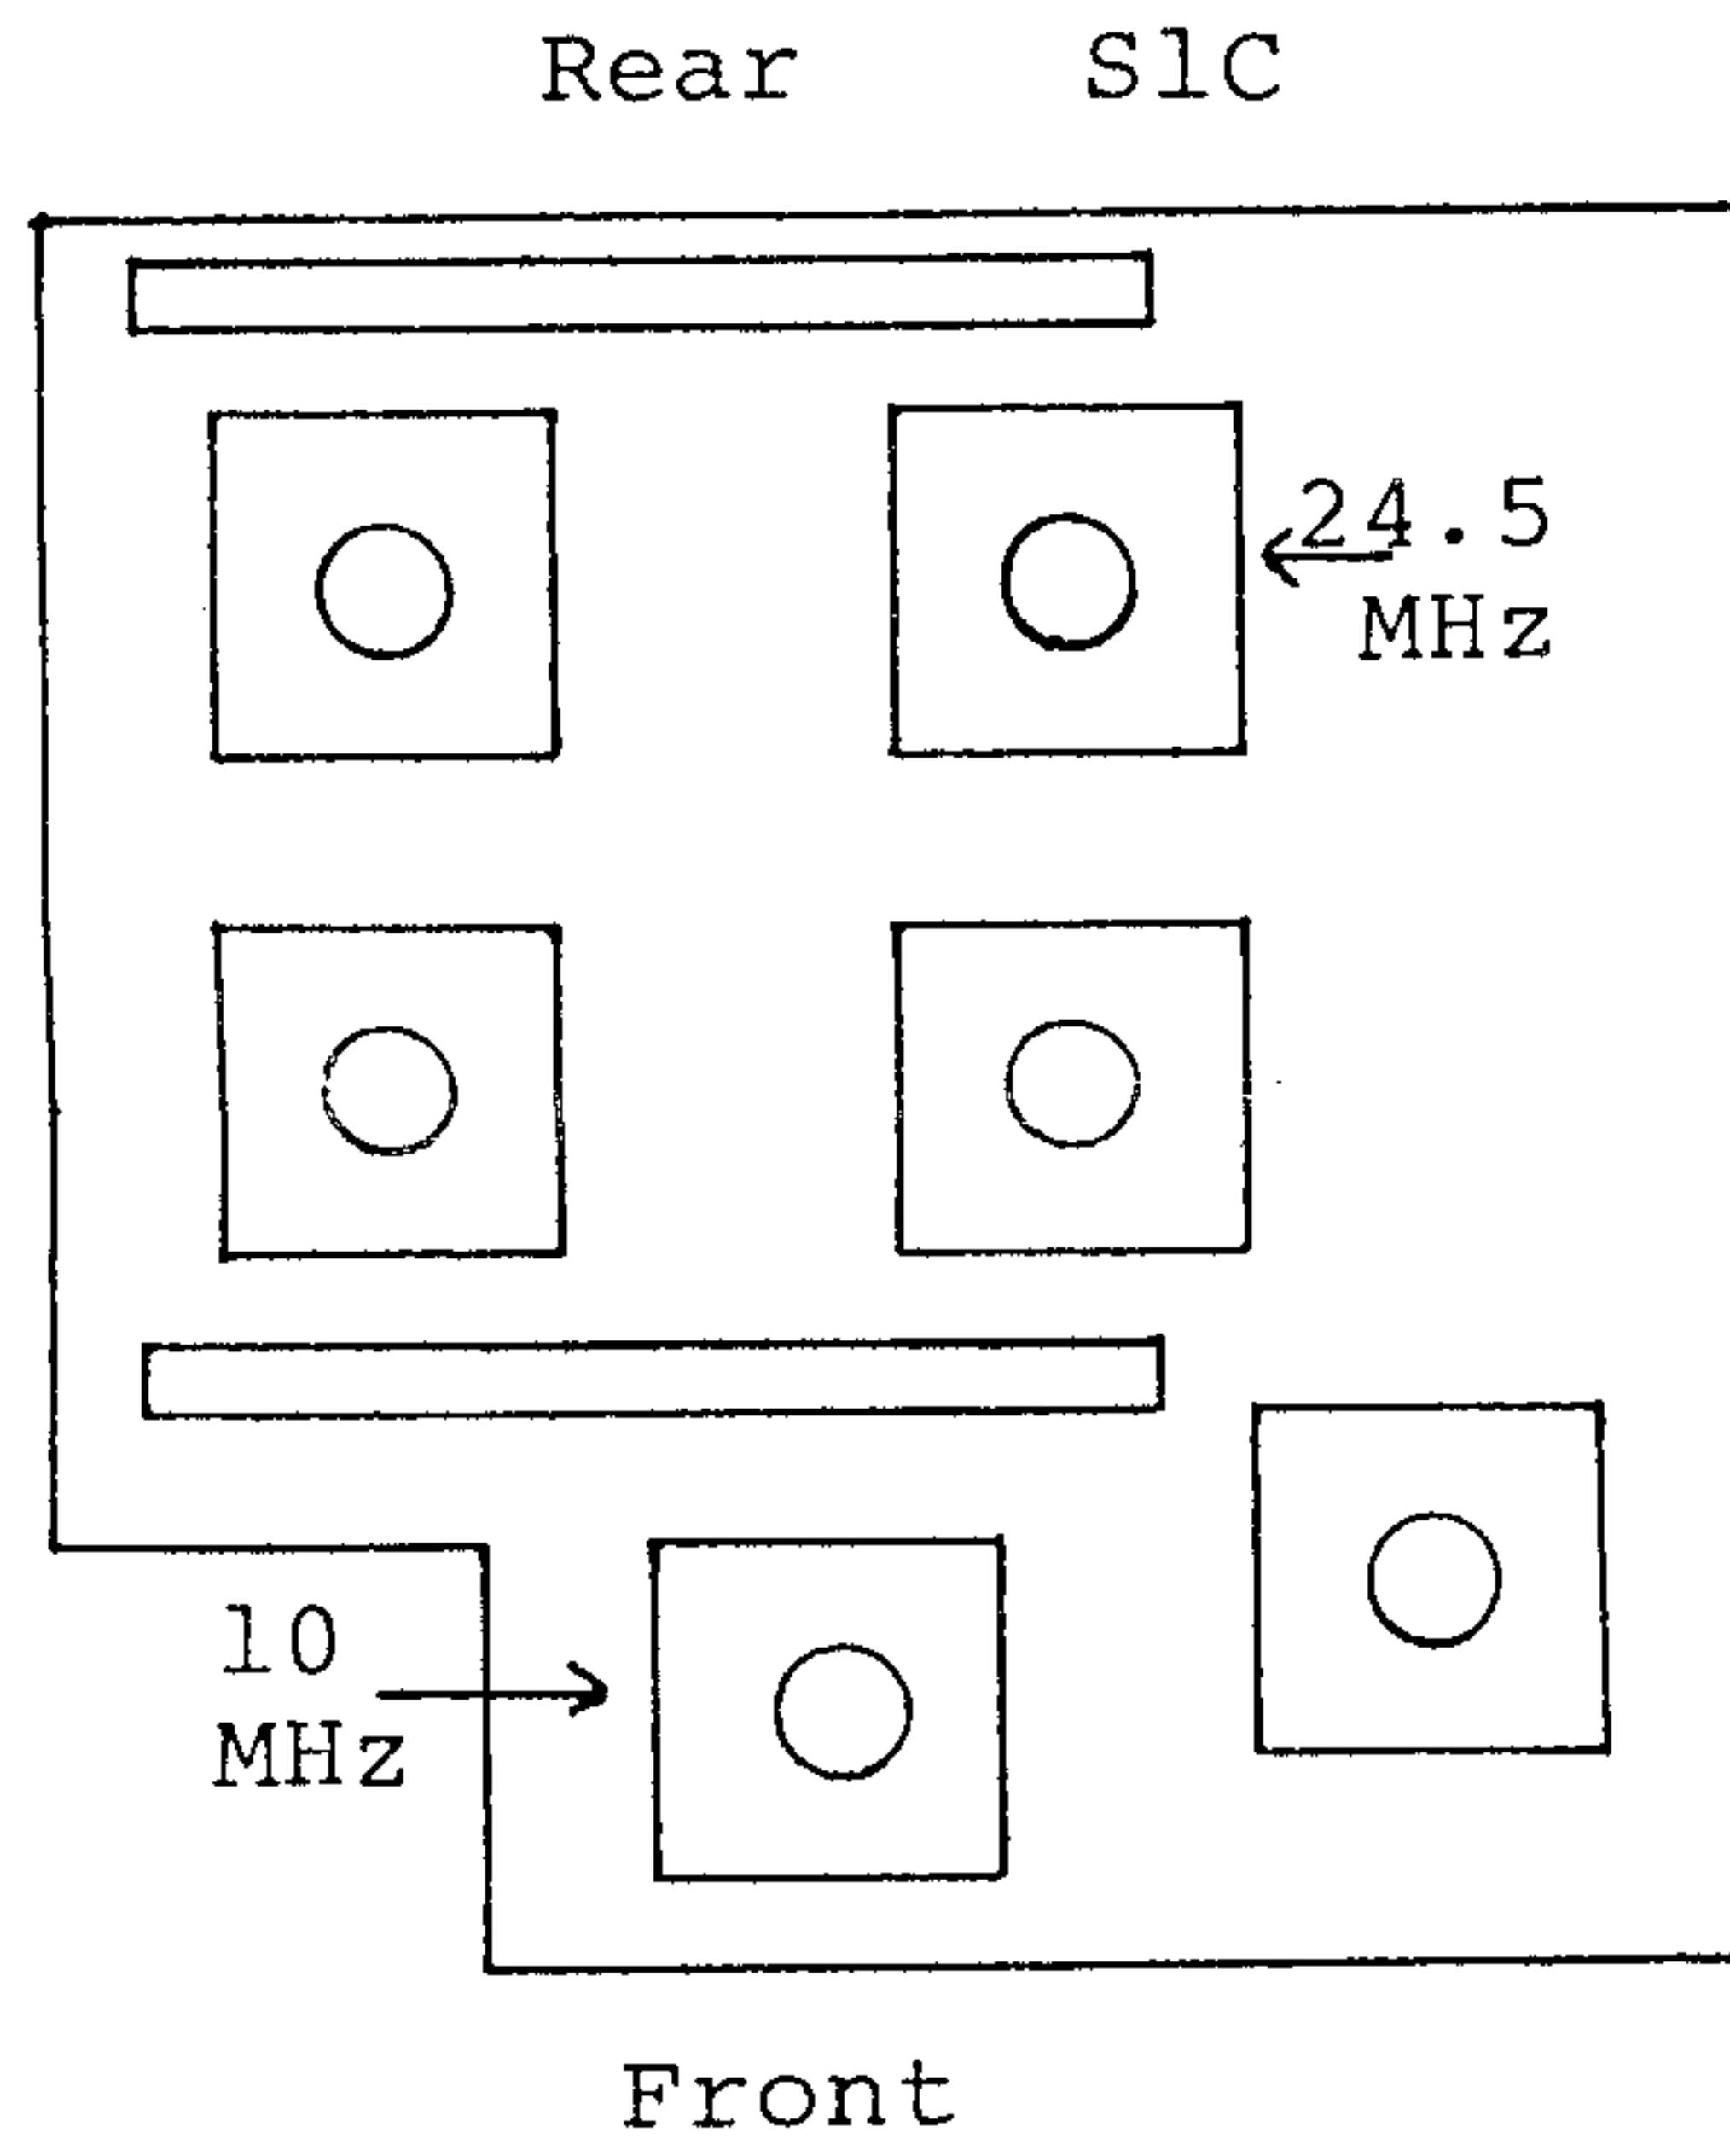

FIGURE 1B
12. Adjust the cores in the 24.5 MHz BPF can so the top core is at the top end and the bottom core is at the bottom of the coil. See Figure 1B. Use the alignment tool provided (long end for the bottom core, short end for the top). Do not force the cores.